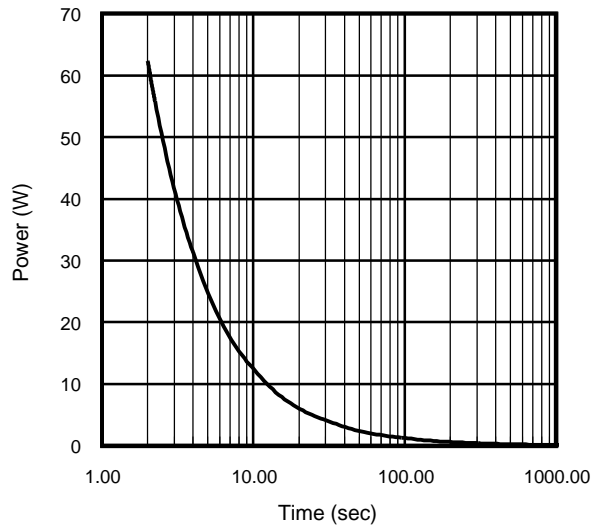

Fig 15. Typical Power Vs. Time
Notes on Repetitive Avalanche Curves , Figures 15, 16:
7. ΔT = Allowable rise in junction temperature, not to exceed T_{jmax} (assumed as 25°C in Figure 15, 16).
**Notes on Repetitive Avalanche Curves , Figures 15, 16: